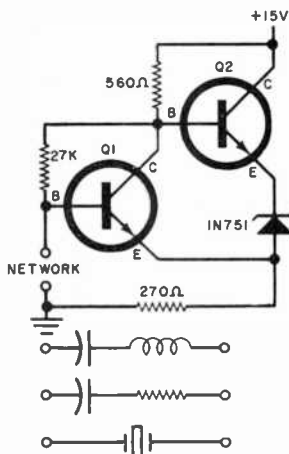

Fig. 3. Ultimate oscillator can generate square, sawtooth, or sine waves over wide frequency range.
**Ultimate Oscillator?** Submitted by Mrs. Dorothy L. Zachary, of Richardson, Texas, the oscillator circuit shown in Fig. 3 can generate square, sawtooth, or sine wave-